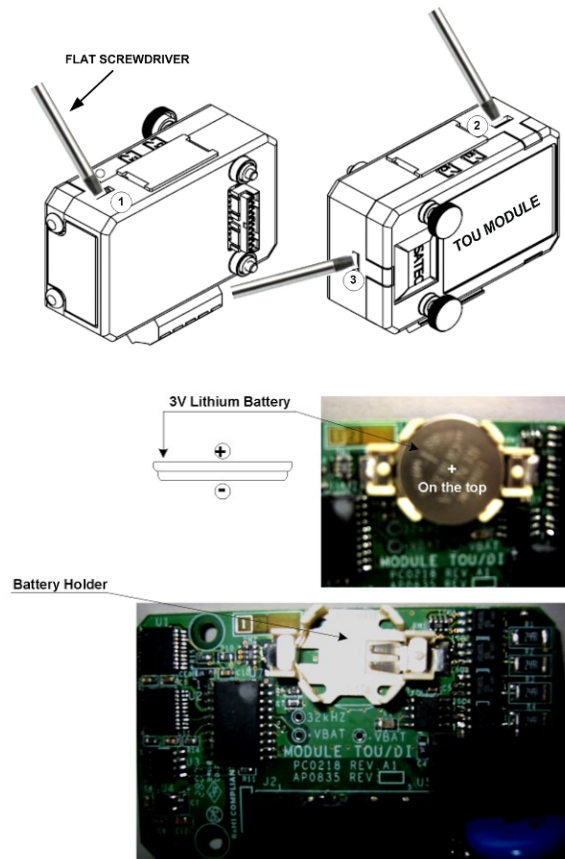

Figure 2-27: TOU RTC Battery Replacement
2. Open the TOU MODULE case by applying a flat screwdriver at three snap-in slit (1, 2 and 3), as shown in Figure 2-27.
4. Place the new CR1632 battery into the battery holder while holding up the battery holder retractable tab in such a way that the (+) battery pole is toward the battery holder, as shown in Figure 2-27.